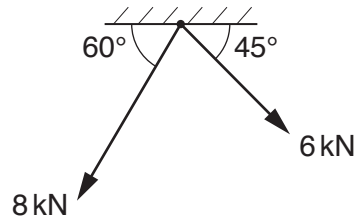

Fig. 5.1
- 5 Fig. 5.1 shows forces acting on a point on a beam.